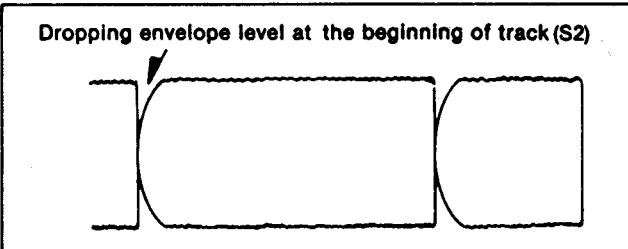
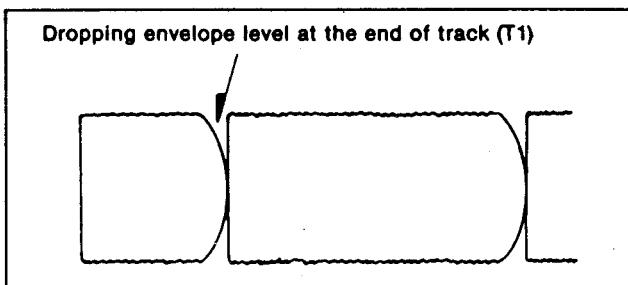
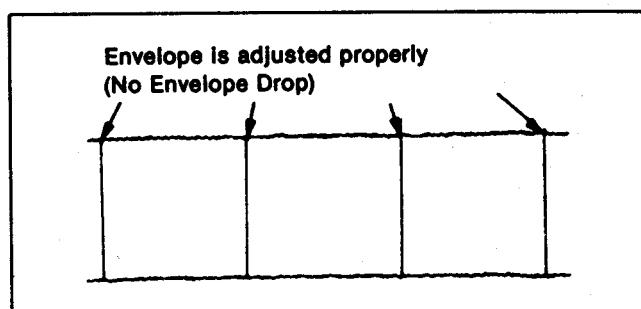

Fig. T10
Fig. T11
Fig. T12
- (3) When the scope display is shown in Fig. T10 adjust the height of S2 so that the wave looks like Fig.T12.
- (4) When the scope display is shown in Fig.T11. adjust the height of T1 so that the wave looks like Fig.T12.